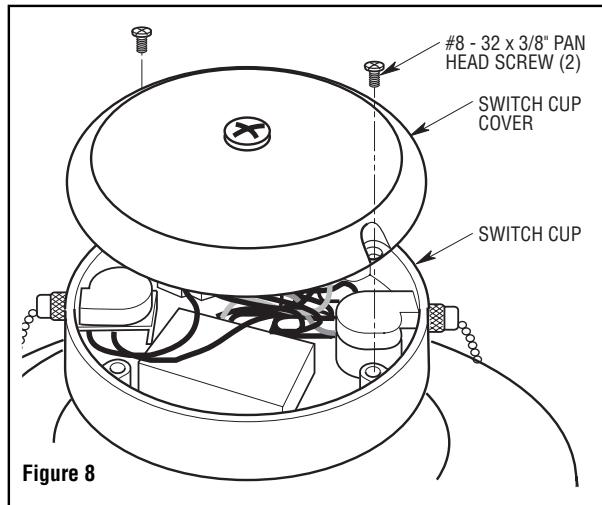

Figure 8
14. Position the switch cup cover onto the switch cup, aligning the two holes. Use the two 8-32 x 3/8" pan head screws to secure cover (Figure 8).